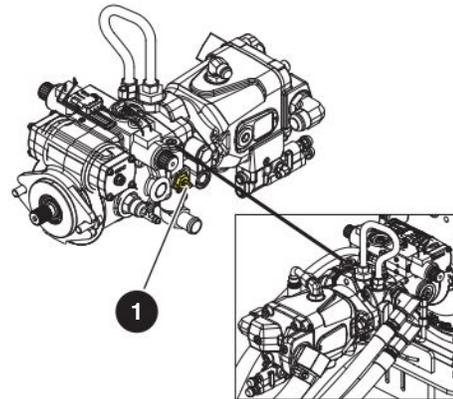

Figure 28 Drive Bypass Valve
3. Locate the bypass valve on the inboard side of the drive pump. Bypass the drive pump by loosening the valve stem (item 1 - marked with yellow paint - Figure 28) 90 degrees clockwise.